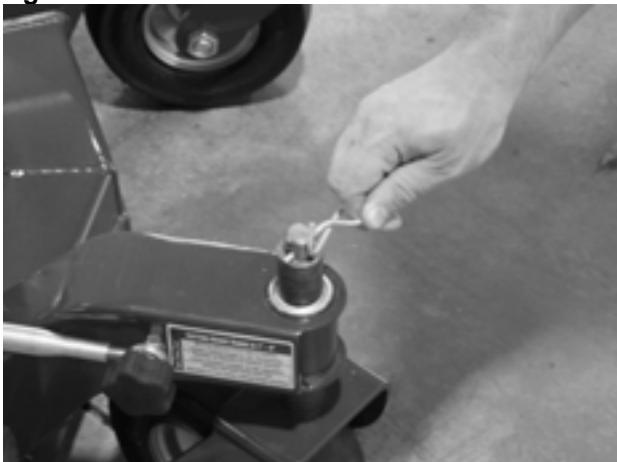

Figure 8
2. Remove twist pin (10800) from the top of caster fork **Figure 8**.